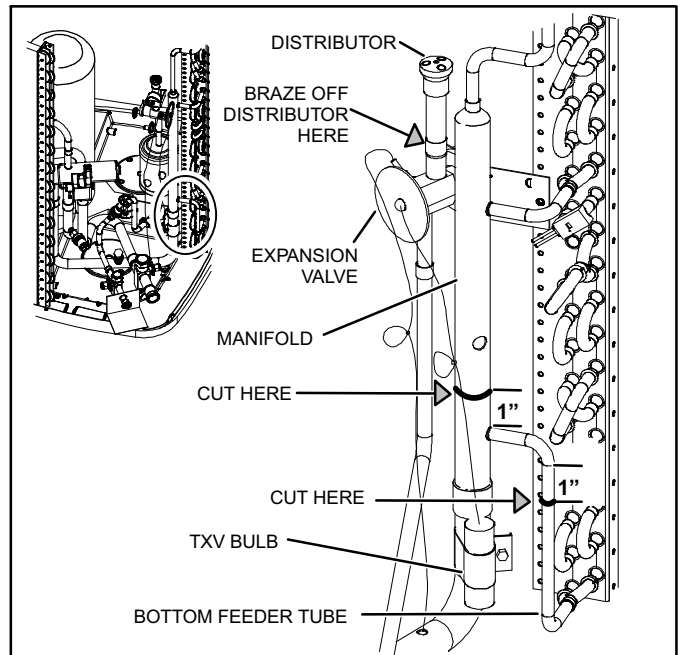

Figure 2. Coil Cut Locations - Most Models
5. Figure 2 is a typical internal view of most models. The circled area in the diagram identifies where the following cuts will be made.